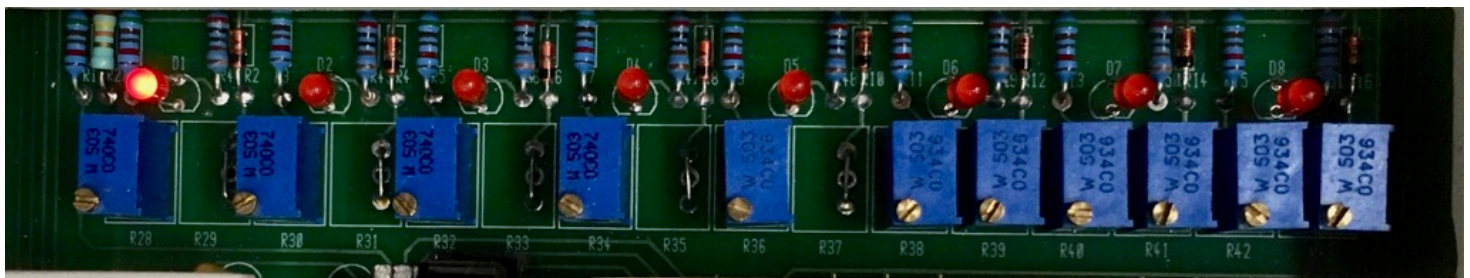

Figure 4 Spot size control pots for all ranges
- If the 100 Micron Spot parameters are in range and the vacuum is $< 5 \times 10^{-9}$ then adjust the 100 Micron spot for minimum size. The spots are adjusted using the Hand Held Spot Size Control Box. There is one pot for each of the 4 spots and two pots for each line. For the lines one pot is used to adjust the width and the other pot the length, Figure 4. The LED that indicates which set of pots to adjust is between the with and length pots for the spot currently in use.